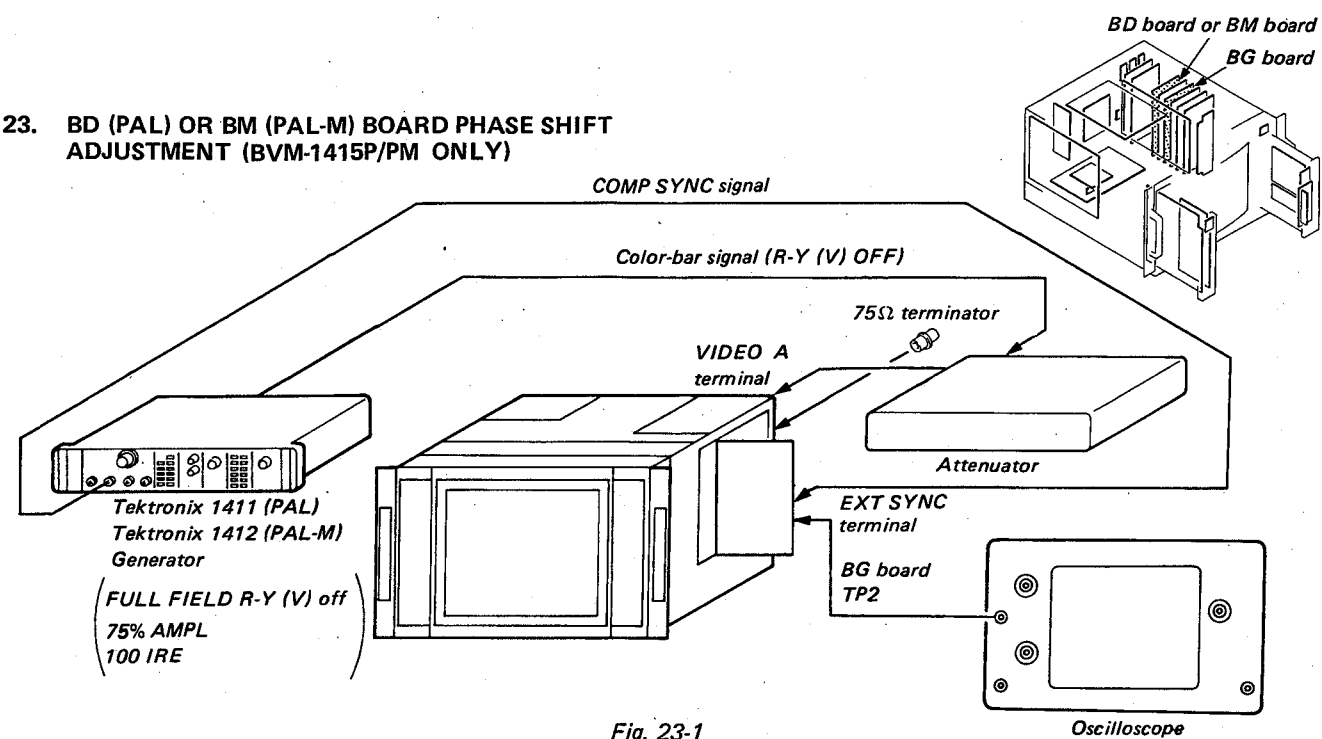

Fig. 23-1
1. Complete the connection as shown in Fig. 23-1.
- INPUT selector (FRONT PANEL (R)) ... A ( ☐ )
- SYNC selector (FRONT PANEL (R)) ... EXT ( ☐ )